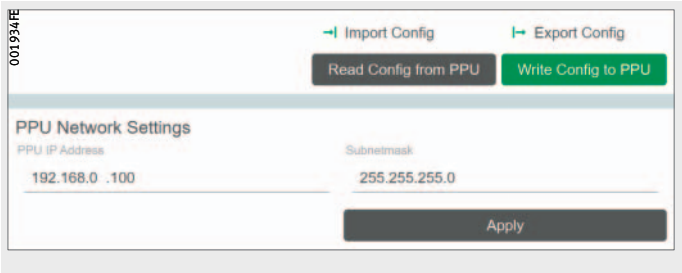

Figure 14
- Perform the settings required for your particular application, see *table* and *Figure 14*, page 23.